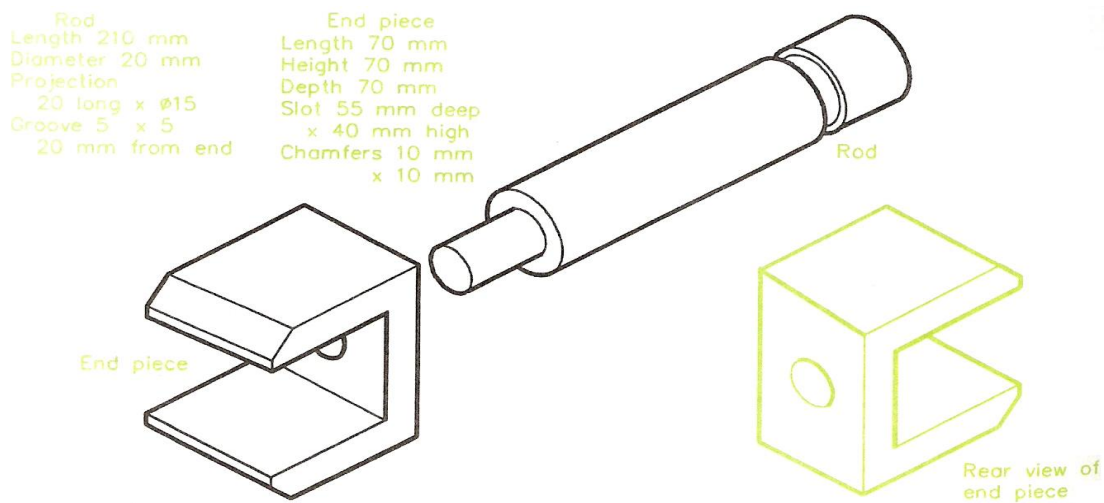

Figure 25 - Exploded Isometric Drawing
Figure 25 is an exploded isometric drawing of a fork end, showing the two parts – its end piece and its rod in an exploded position. The rod is shown pulled out from the END along an isometric 30 degree axis. A rear view of the end piece is included to show that the rod fits into a hole in its back face. To construct the drawing:
1. Working to the sizes given with Figure 25, draw the end piece, remembering that the chamfer sizes must be taken along the isometric lines.